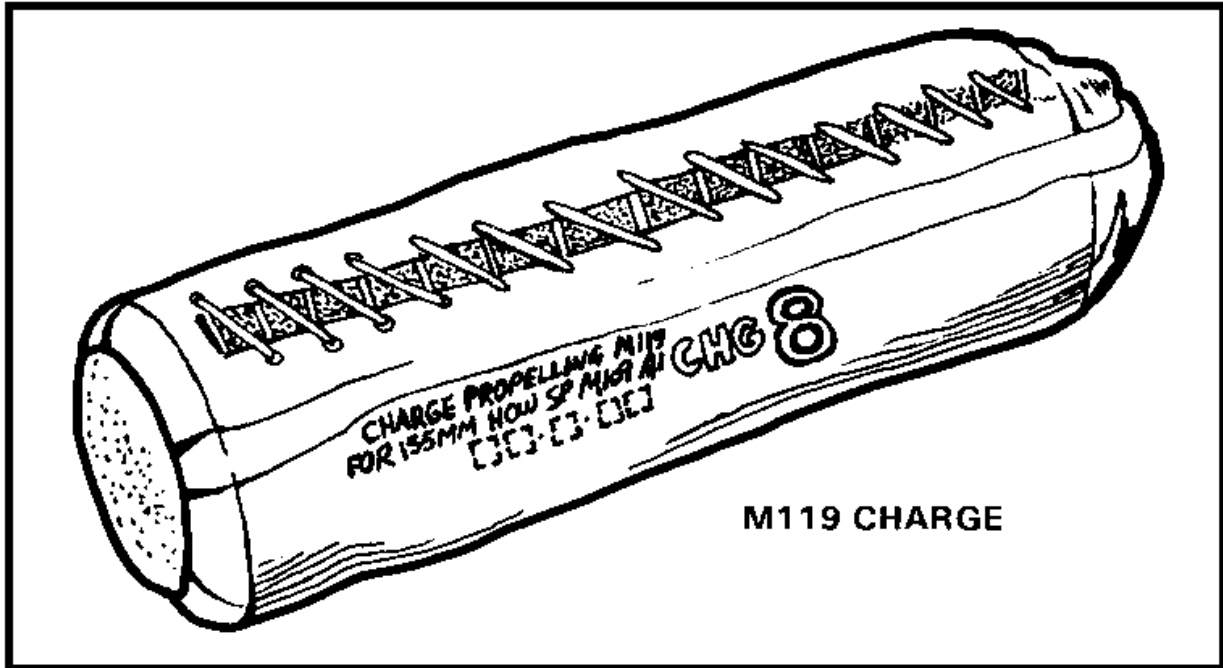

Figure 24. M119 propelling charge.
(5) Propelling charge M119. This is a special single zone (8) charge developed to extend the range of the M109A1 and A3 long tube. This white bag charge consists of only one increment with an igniter bag sewn on the base, and a flash reducer on the front of the charge (Figure 24). Refer to Table 2 to determine which weapon system can use the various propelling charges.